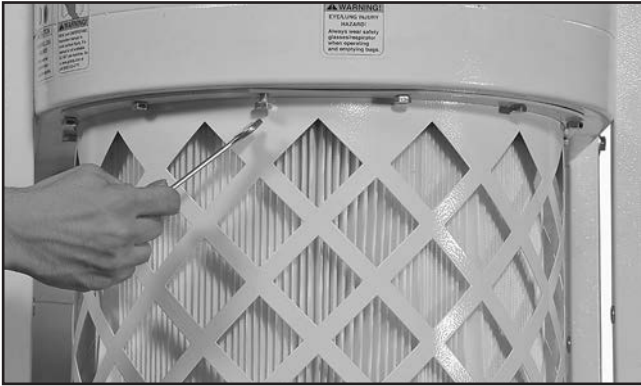

Figure 54. Removing hex bolts from canister assembly.
4. Remove the twelve hex nuts from the blower housing base, as shown in **Figure 54**.